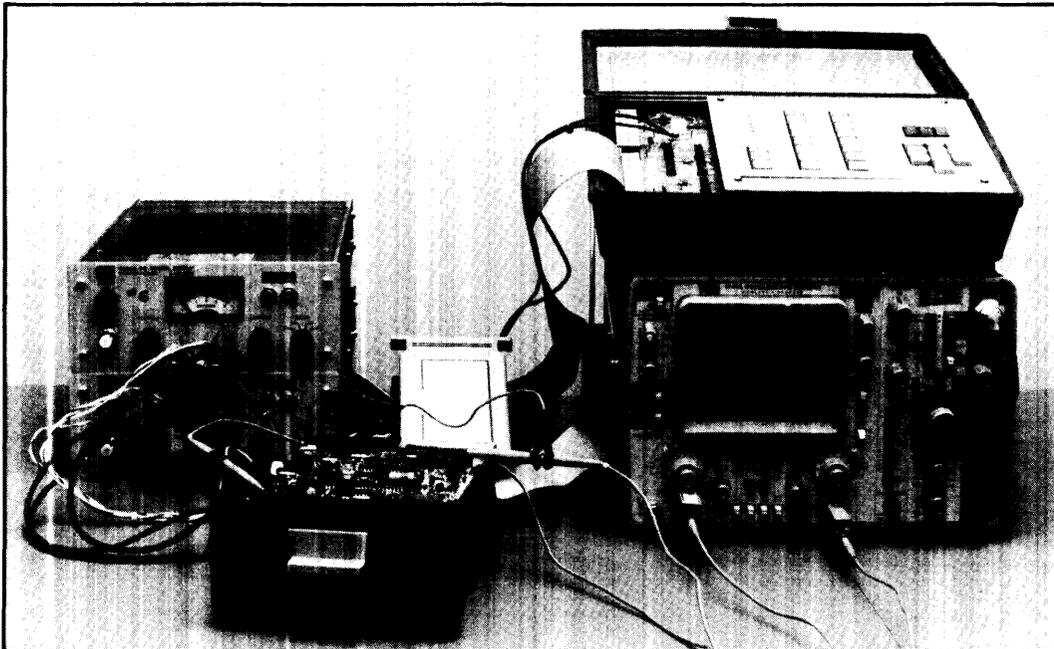

Figure 5-14: 9130K/DSU Test Setup
2. Connect the equipment as shown in Figure 5-14.